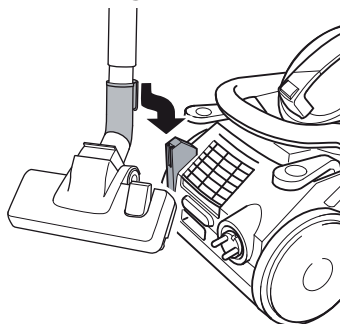

Fig. 19
- For storing or during interruptions of your work you can use the parking bracket to hook in the parking hook of the floor nozzle (Fig. 19).